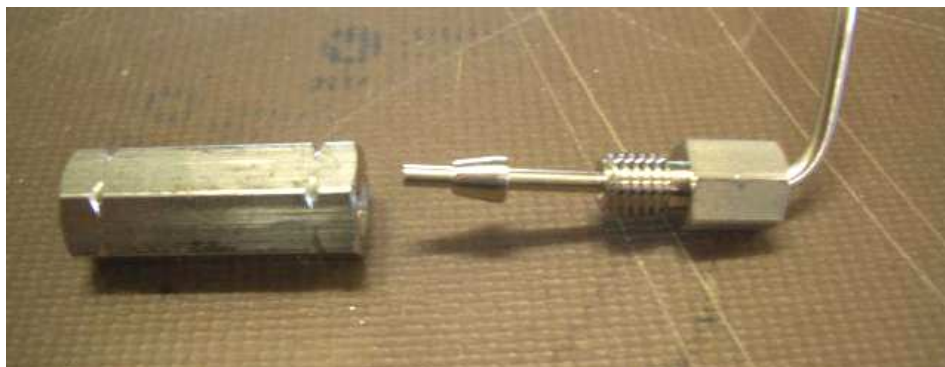

Figure 8: Ferrule Seating Tool (union)
1. Use the pictured Ferrule Seating tool (*Fig. 8*) for crimping the ferrule's to the tubing. Make sure that the tubing is held firmly all the way into the tool before tightening $\frac{3}{4}$ of a turn from finger-tight.